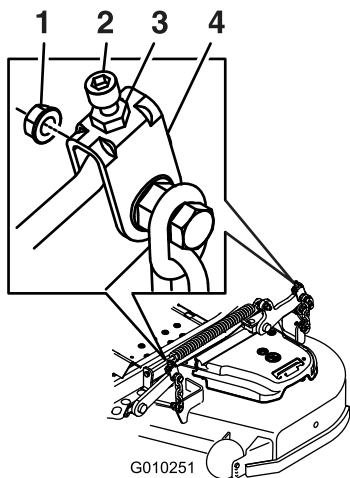

Figure 98
11. For mower decks shown in Figure 98, fine-tune the adjustment nut on the front deck-lift assembly by turning it (Figure 98).
17. Fine tune the screw adjuster by turning it to get 8.3 mm (3-1/4 inches) height (Figure 98).